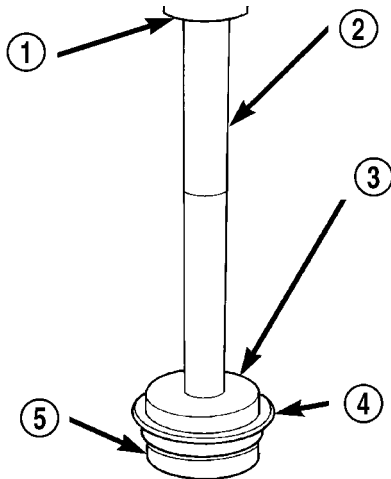

Fig. 115 Install Transfer Shaft Bearing Cup Into Retainer
(28) Install transfer shaft bearing cup into retainer using Tool 6061 (Fig. 115).